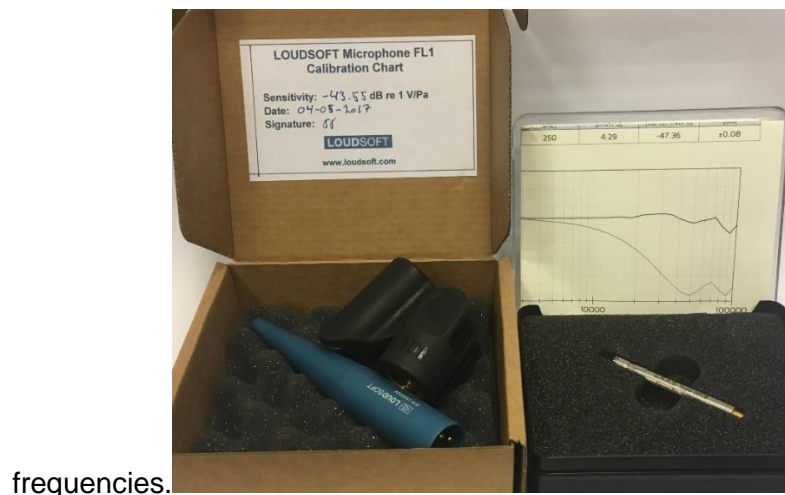

Figure 2 - Microphone sensitivity charts. Left is the LOUDSOFT FL1 microphone and right is the GRAS 46BE microphone.
- a. Enter the microphone sensitivity from your Microphone Calibration Chart (see Figure 2). Note this is a negative number, i.e. -47.33 dB